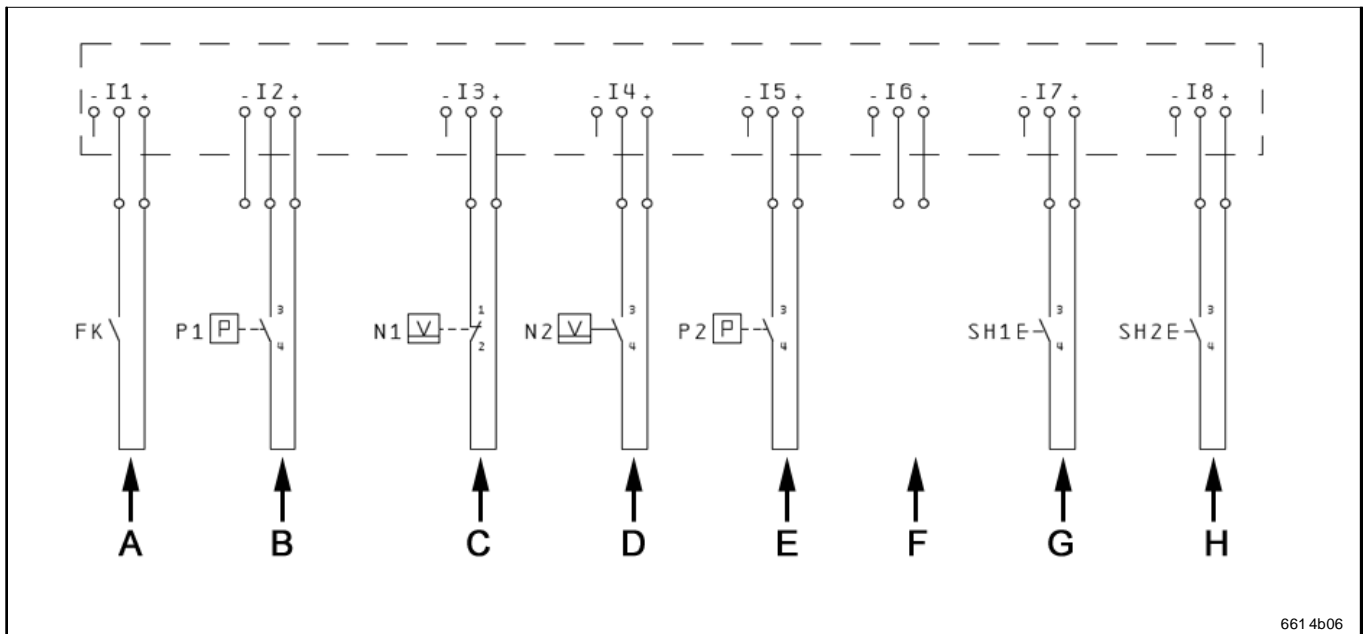

Fig. 25 Signal input connection
1) or, if applicable, externally via switch H (see Fig. 25)